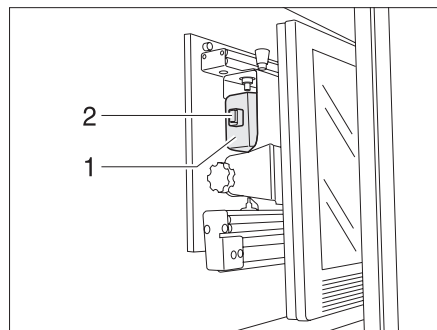

Fig. 6 Holder in the TV cabinet
- ▶ Rotate the television to its initial position (Fig. 6) and lock it into place.
- ▶ Use handle (Fig. 6,1) to push the holder for the flat screen backwards.
- ▶ The latch (Fig. 6,2) will engage.